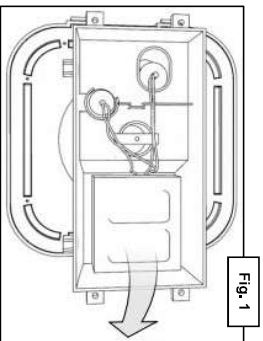

Fig. 1
1. Working from above the canopy, remove the existing light fixtures' ballast box cover plate. Ballast compartment shown (before removal of ballast and capacitors) (Fig. 1).